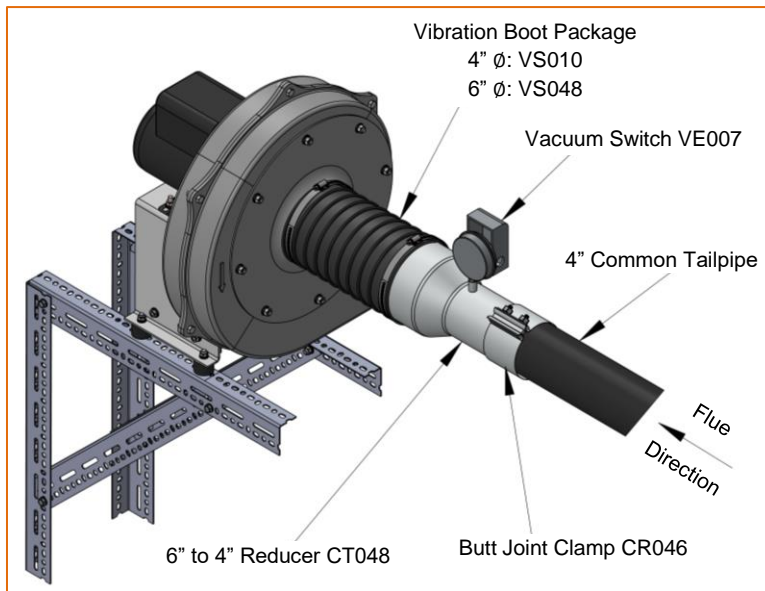

Figure 34: Tailpipe to Vacuum Pump Connections
2. Install the Flexible Boot Connector between the Reducer and Pump Inlet, to reduce vibration and noise transmission, using a gear clamp at either end, as shown in Figure 34.
5. Mount/position the Vacuum Switch onto the Radiant System as shown in Figure 34. Connect the Vacuum Switch to the Vacuum Pump and the Control Panel.